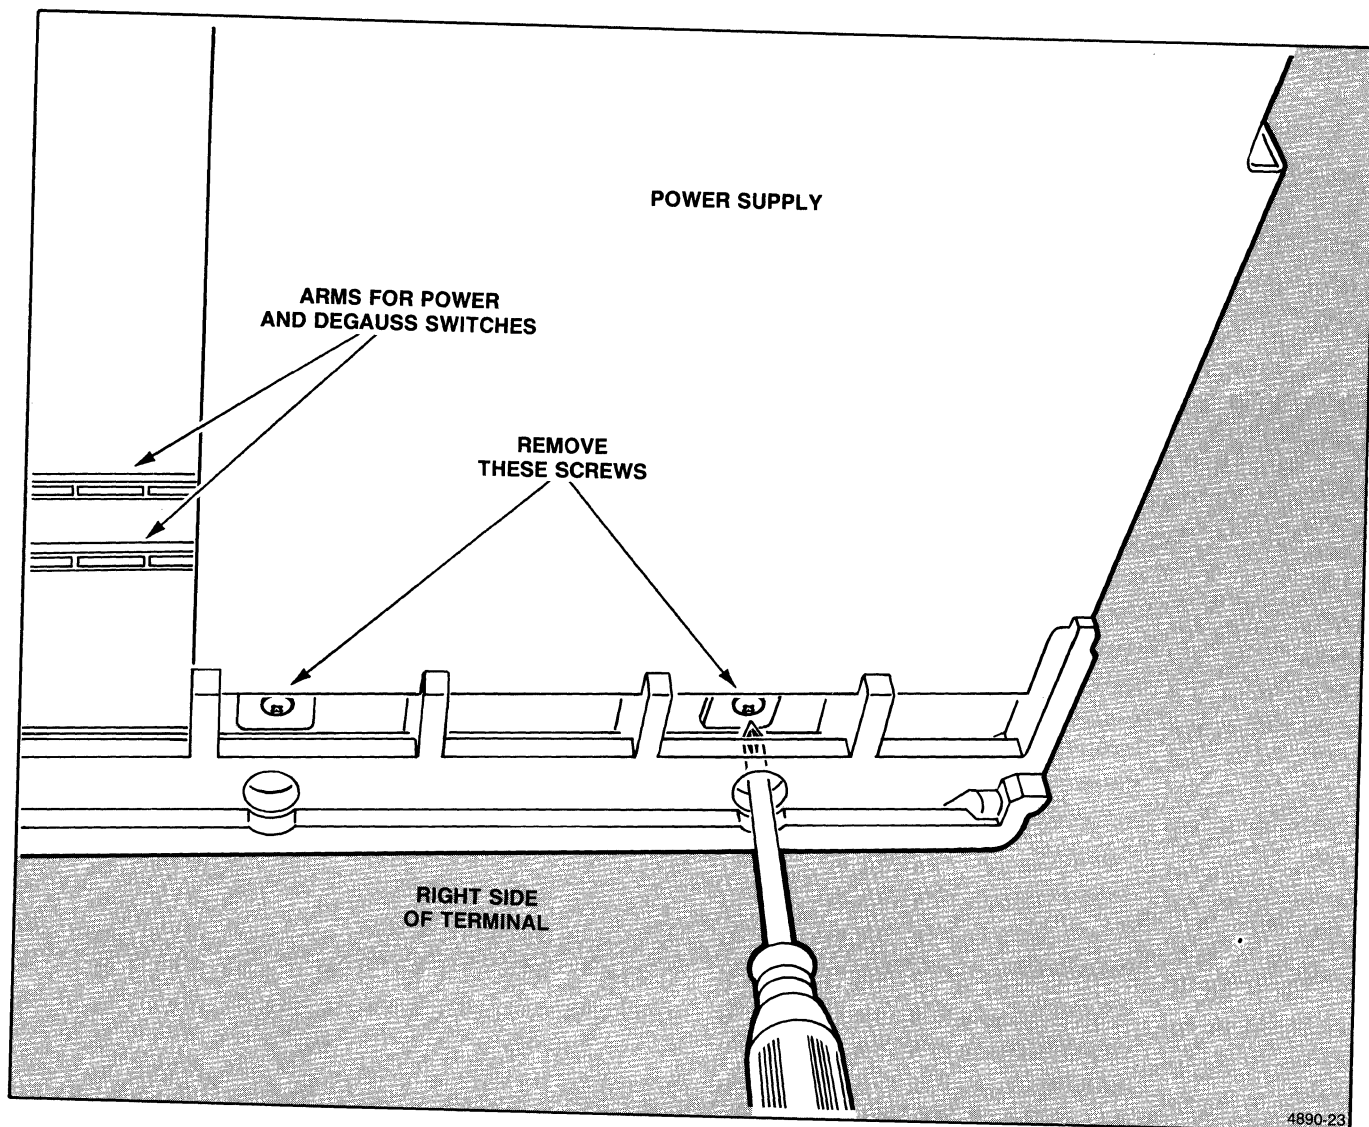

Figure 6-4. Power Supply Mounting Screws.
5. Unscrew the two Power Supply mounting screws, on the outside edge of the terminal. See Figure 6-4.